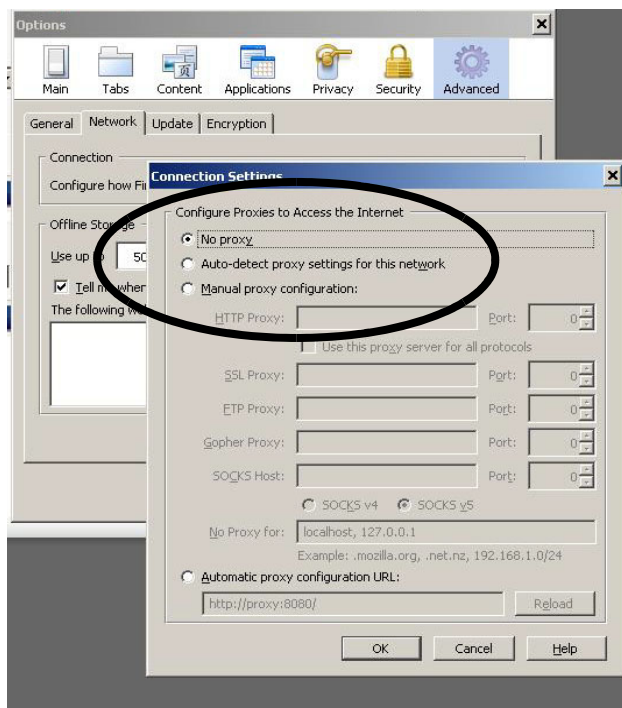

FIG. 28. Turn Off Proxy Setting (Firefox only)
2. *Applies to Firefox only:* To operate in a ProMix 2KS/3KS network with Firefox, you must turn off the Proxy setting on your browser. In your Firefox browser, go to Tools>Options>Advanced>Network tab>Connection Settings. Click “No proxy.” See FIG. 28.